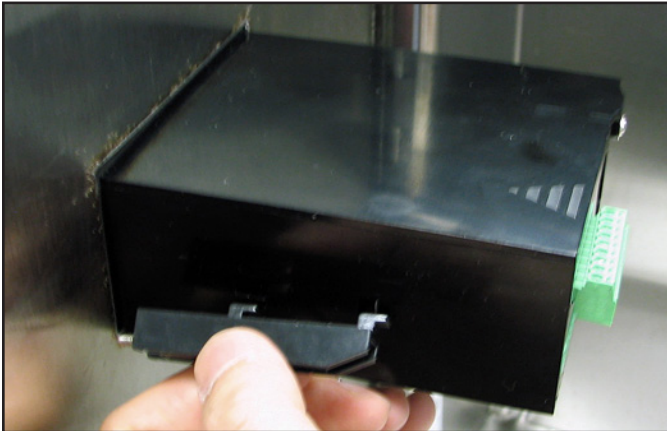

Figure 12: Installing the Mounting Brackets
4. Behind the panel, insert the mounting brackets into the side holes provided (see *Figure 12* below).